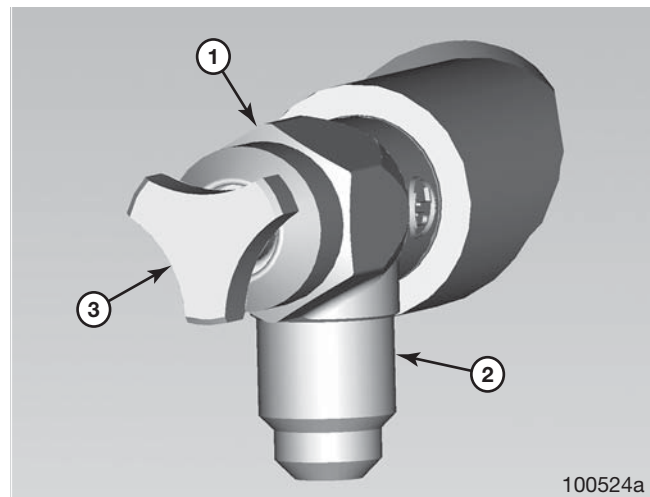

Figure 45 – Tank Bleeder Valve
2. Install the new bleeder valve assembly into the tank. Torque to 20 +/-4.0 Nm minimum, plus orientation, reverse torque not permissible (see Figure 45).